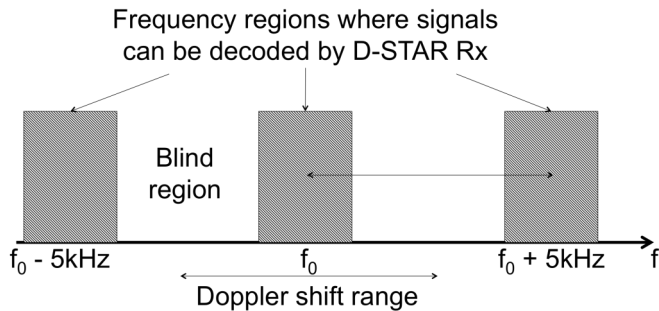

Figure 4: Illustration of the inability of commercial D-STAR repeaters to compensate the Doppler shift.
A major issue in the design of a D-STAR radiocommunication system for a satellite is the Doppler shift compensation. The constraints that we face are that (1) the Doppler shift ranges from -3 kHz to +3 kHz at 145 MHz (used for downlink), and from -9 kHz to +9 kHz at 435 MHz (used for uplink), and (2) the commercial D-STAR transceivers have a tolerance of 1 kHz and a frequency step of 5 kHz. Therefore, as illustrated in Fig. 4, there are blind frequency regions, in which commercial transceivers are unable to compensate the Doppler shift correctly.